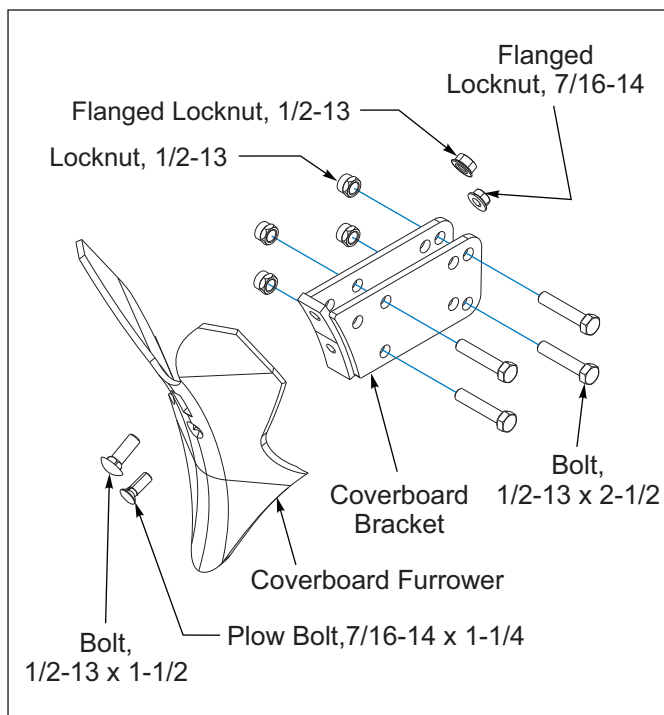

Figure 3-8: Coverboard Installation
2. Tighten the 7/16-14 Flange Nut to the 7/16-14 x 1-1/4 Plow Bolt before tightening the 1/2-13 Locknut to the 1/2-13 x 1-1/2 Roundhead Bolt. This is to ensure that the point of the Coverboard Furrower is pulled tightly against the Bracket. Make sure that the Plow Bolt Head is flush with the surface of the Coverboard Furrower. **See Figure 3-8.** This hardware should be tightened now.